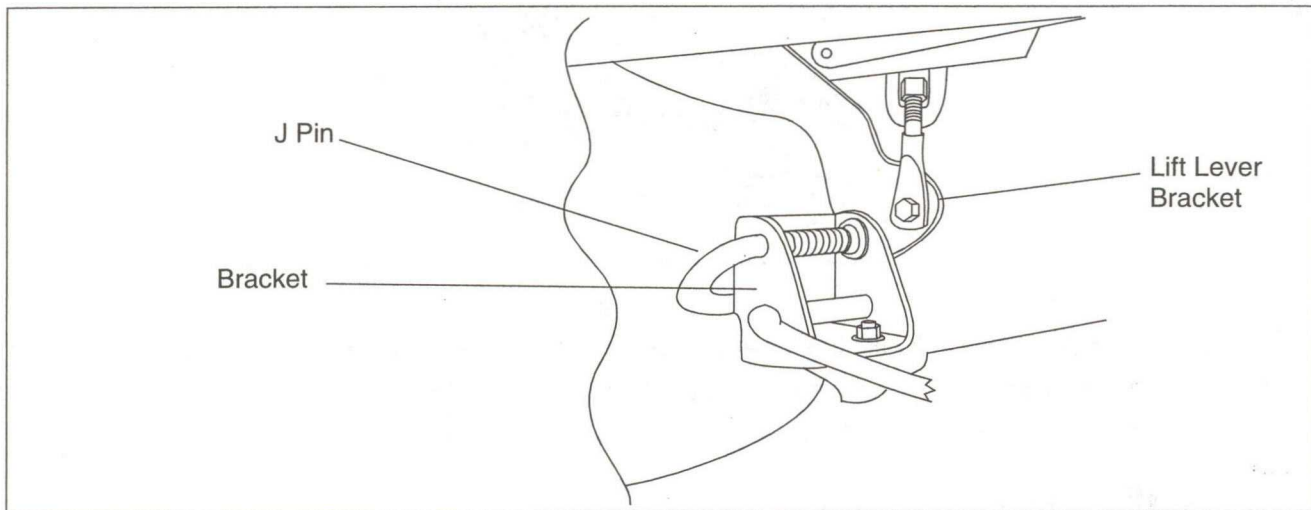

Figure 26
7. Align the mower deck so the Lift Lever Bracket aligns with the bracket on the mower deck. (See Figure 26)
9. Release the J-pin so that it goes through both holes of the bracket. (See Figure 26)